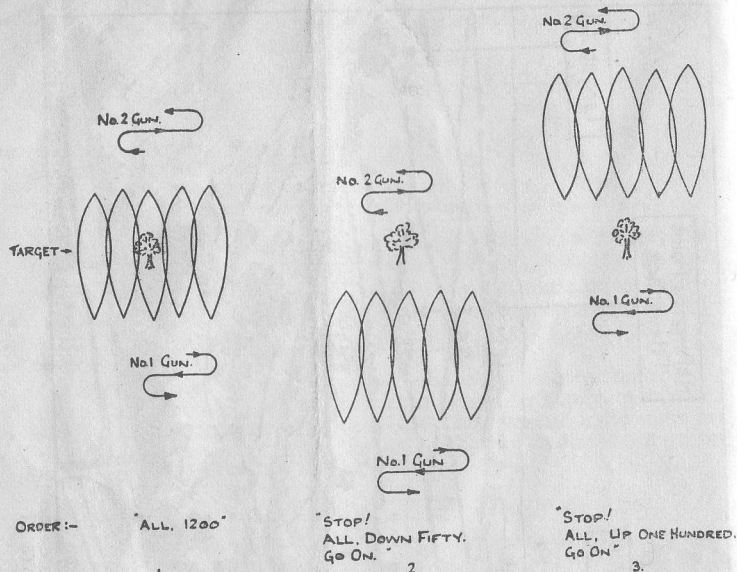

FIG 20
5. Select suitable targets on the landscape target. Prepare blackboard with diagrams as given in Fig 20.
Illustrate on the blackboard a section engaging a point target at 1200 yards (key ranging). (See Fig 20).